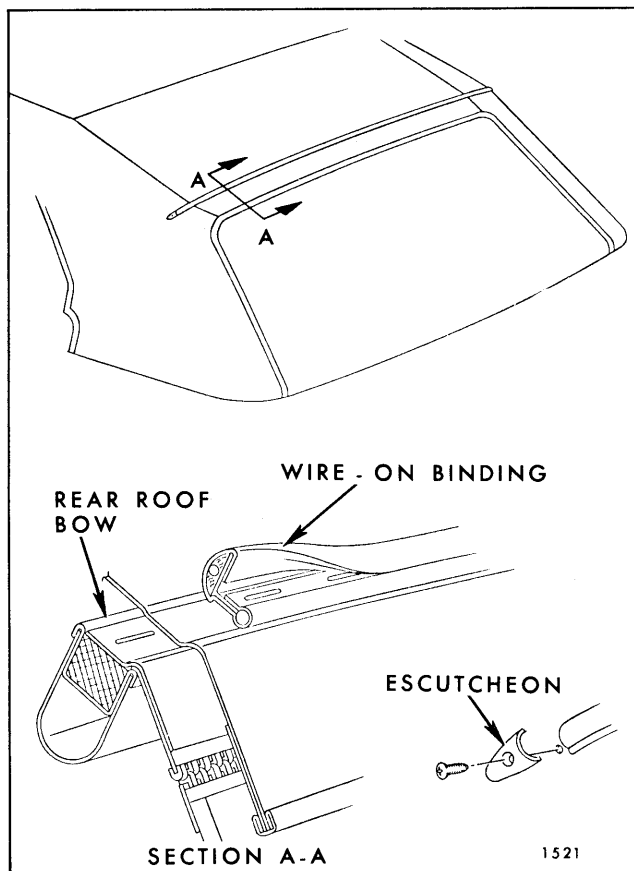

Fig. 13-33—Rear Roof Bow Wire-On Binding
22. Remove screw securing escutcheon clip at each end of wire-on binding on rear bow. Remove wire-on binding from rear bow. Detach top material from rear roof bow and from trim sticks, then remove top cover assembly (Fig. 13-33).